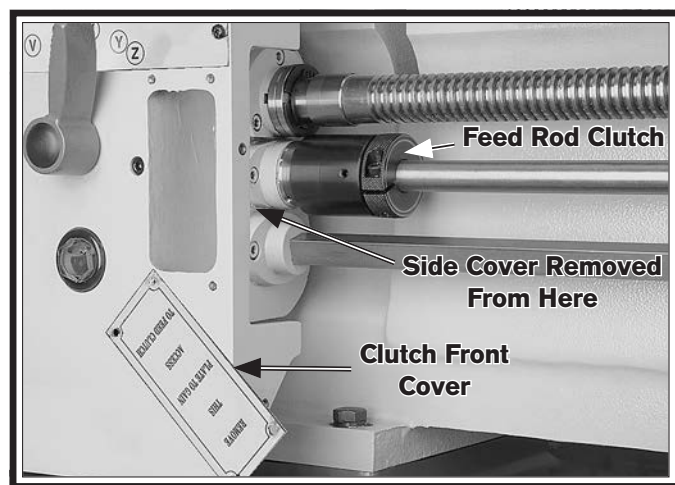

Figure 130. Location of feed rod clutch (side cover removed for photo clarity).
2. Remove the clutch front and side covers (see **Figure 130**).